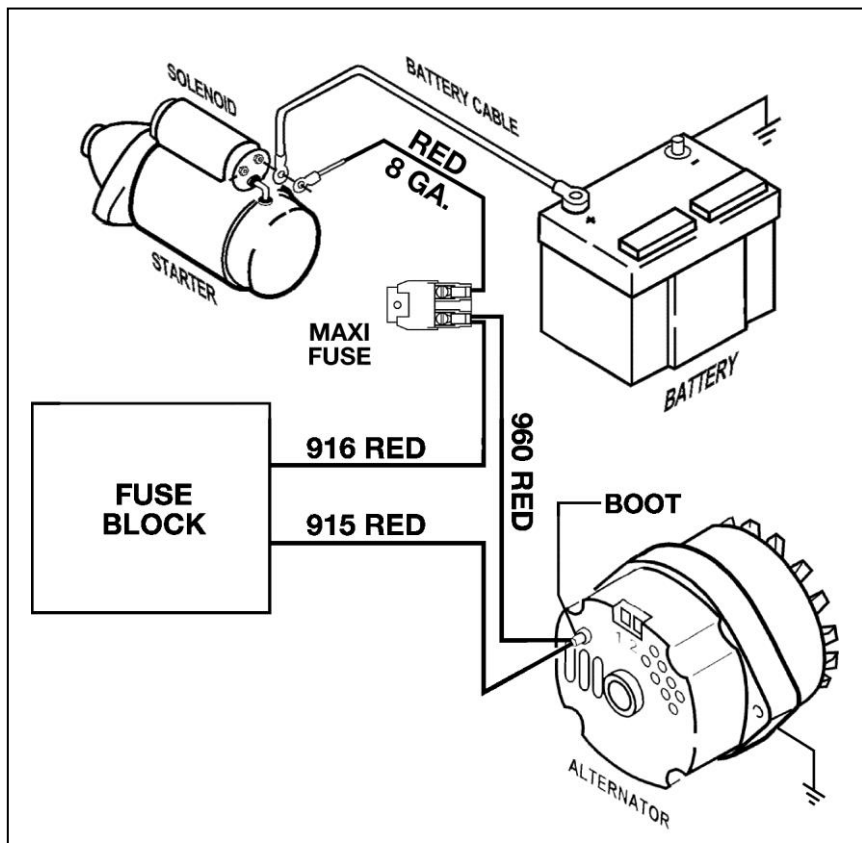

Figure 7-2B High Output Wire
CAUTION: IF USING AN ALTERNATOR WITH AN OUTPUT LARGER THAN 65 AMPS, YOU WILL ALSO NEED TO USE JUMPER WIRE #960 (RED) INCLUDED IN BOX. THE WIRE END WITH THE RING TERMINAL AND RUBBER BOOT WILL CONNECT TO THE ALTERNATOR OUTPUT LUG. ROUTE THE OTHER END TO THE STARTER SOLENOID. CUT THE WIRE AND CRIMP ON A RING TERMINAL. INSTALL ON SOLENOID TERMINAL WITH CABLE COMING FROM BATTERY. SEE FIGURE 7-2B. YOU WILL NOW HAVE TWO (2) HEAVY WIRES ON THE OUTPUT POST.